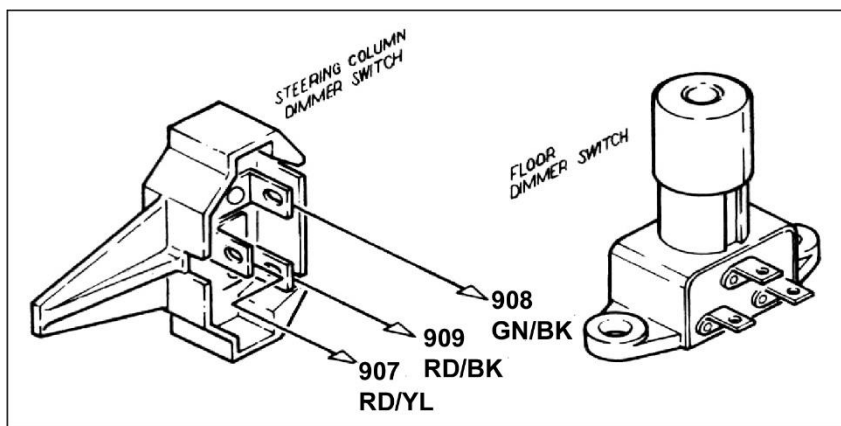

Figure 8-3D Dimmer Switches (Push Button Style – Painless Part #80150)
8.3.9 Connect the DIMMER SWITCH SECTION to your floor-mounted Dimmer Switch or column-mounted Dimmer Switch. Refer to **Figure 8-3D**